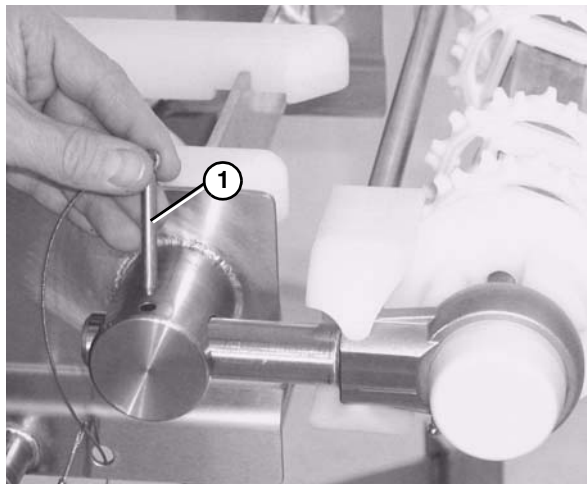

Figure 42
2. Remove the pull pin (**Figure 42, item 1**) on the tension end of the conveyor to release belt tension.